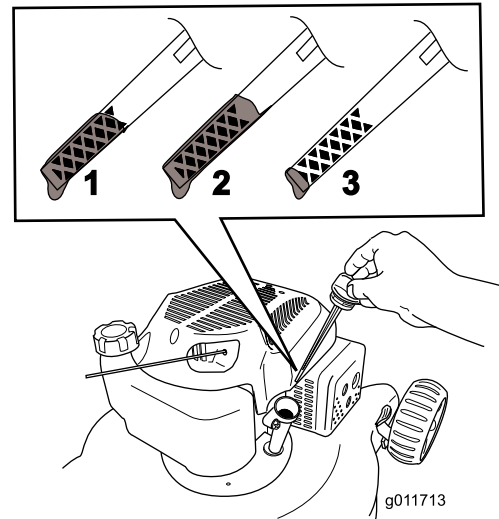

Figure 4
2. Remove the dipstick (Figure 4).
3. **Slowly** pour oil into the oil fill hole, wait a few minutes, and check the oil level on the dipstick by wiping the dipstick clean and then inserting, **but not screwing in**, the oil fill cap into the hole (Figure 4).
Note: Fill the engine crankcase with oil until the dipstick indicates that the engine oil level is correct as shown in Figure 4. If you overfill the engine with oil, remove the excess oil as directed in Changing the Engine Oil.